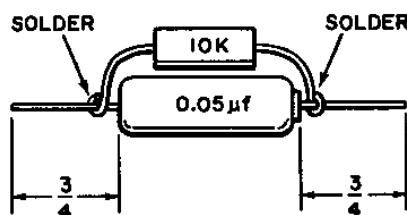

FIGURE 5
167. (✓) Select a 0.05 μf 400 volt molded capacitor C30 and a 10K ohm 2 watt resistor (brown, black, orange, silver) R25. Prepare these two components as shown in Figure 5. First, wrap the leads of the resistor around those of the capacitor. After cutting off surplus resistor lead, solder each wrap carefully. Trim each capacitor lead to $3/4$ " in length. Slip a $1/2$ " length of yellow sleeving over each lead and connect the resistor/capacitor combination between SW-3 lug 5 (S-1) and V5 lug 9 (NS). Be sure to connect the outside foil end (line) to V5 lug 9.